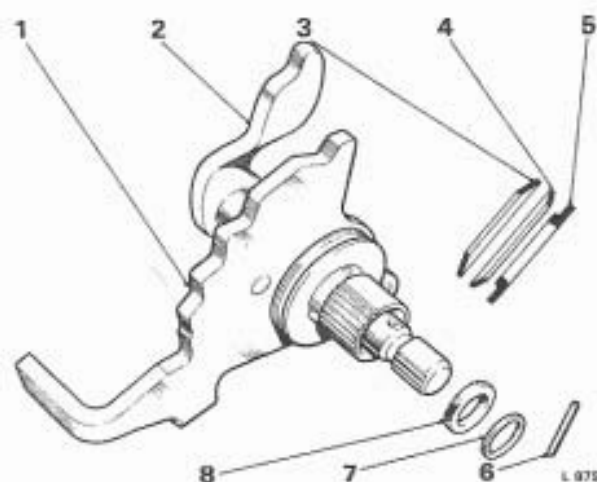

FIG. T38 SELECTOR AND THROTTLE VALVE LEVERS
If the selector lever (67) and throttle valve lever and shaft (30) have been removed from the outer body (53) assemble them as shown in Figure T38; fit a new sealing washer (69) to the throttle lever shaft.